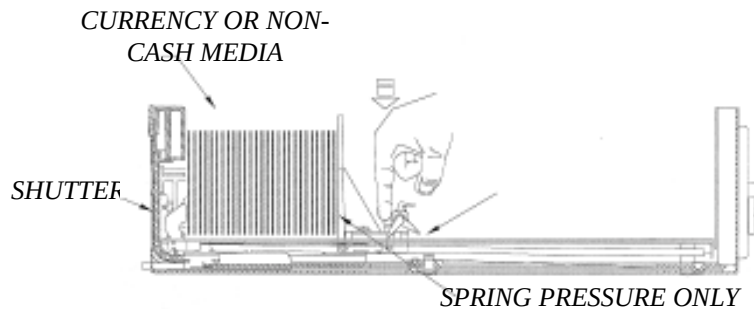

Figure 4-7. Releasing the packer plate latch.
5. Once the cassette is loaded, **release the green packer plate latch** and allow the packer plate to close gently against the currency or non-cash media (See Figure 4-7). Don't allow the packer plate to place excessive pressure on the stack of notes. Too much pressure may cause a failure to feed.